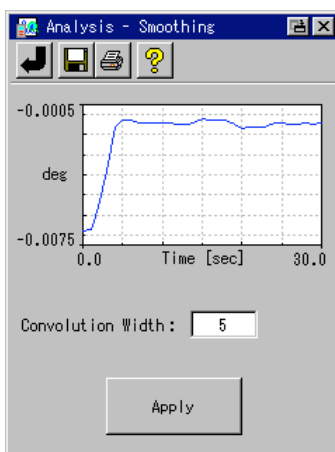
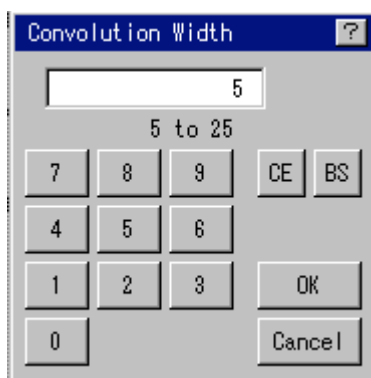

Figure 5.17 Smoothing window
Figure 5.18 Convolution width setting window
- 1) Press the <Smoothing> button in the analysis window. If the data is not saved, after confirming the data saving, the window shown in Fig. 5.17 is displayed.
- 2) Press the [Convolution Width] field to display the window shown in Fig.5.18. Enter the convolution width and press the <OK> button to return to the window shown in Fig.5.17. When setting the convolution width, enter an odd number in the range from 5 to 25. For the input method, see Section 3.3 “Editing Parameters”.